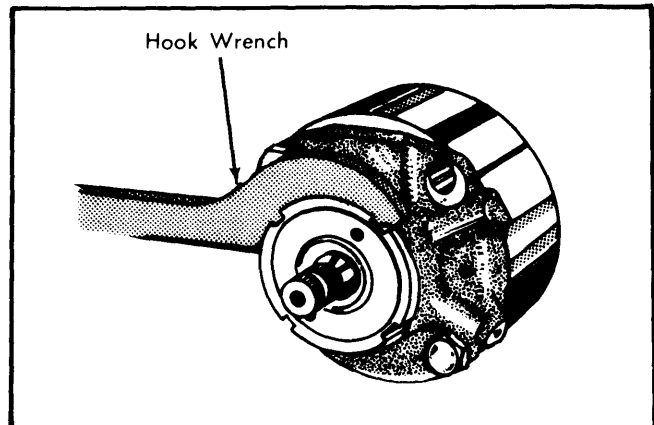

Fig. 5 Removing Slotted Nut with Special Hook Wrench
7) Unscrew slotted nut, using hook wrench, from bearing insert. See Fig. 5.